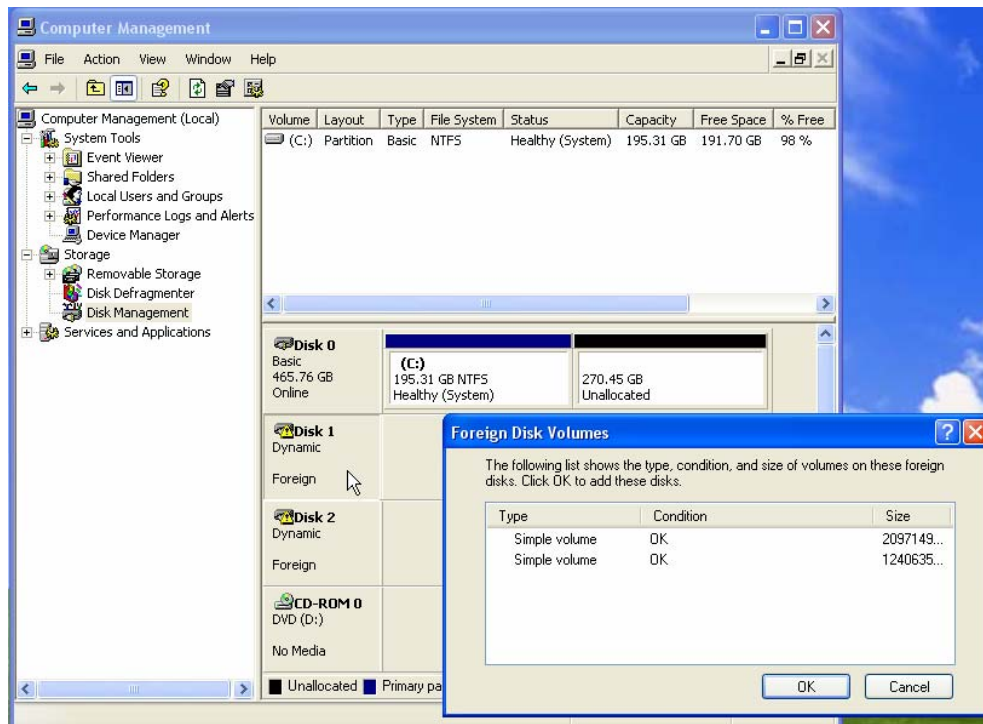

Figure 5-12
- 12) Ensure that the **Foreign Disk** check box in the **Disk Group** area is selected and then click the **OK** button to access the **Foreign Disk Volumes** dialog as illustrated in Figure 5-12.